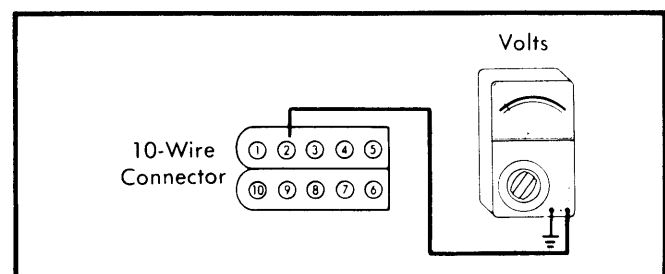

Fig. 10 Voltmeter Hook-Up for Checking Terminal 2 Voltage
8) If voltage was not at least 5 volts, turn ignition switch off. Disconnect 10-wire connector from computer. Turn ignition switch back to "RUN" position. Connect positive voltmeter lead to terminal 2 of 10-wire connector and negative lead to ground. See Fig. 10. Voltage reading should again be within 1 volt of battery voltage. If not, check wiring between terminal 2 and ignition switch for opens, shorts or poor connections.